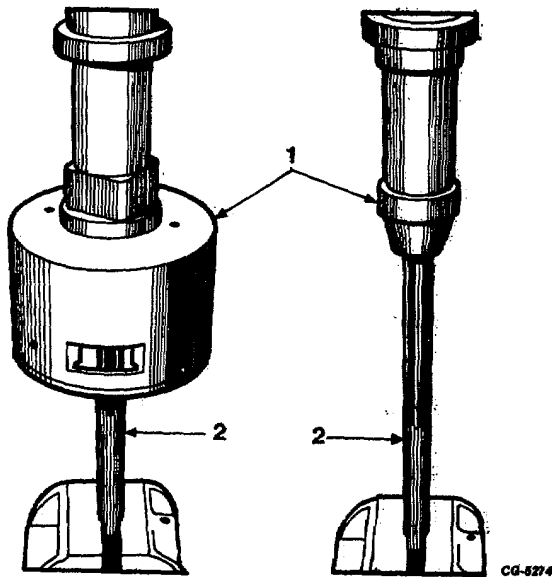

Fig. 33 Burnishing Upper and Lower Bushings Using Burnisher Tool.
- Burnish upper bushing by carefully placing distributor housing on burnisher and rotating the housing clockwise using light pressure until tool passes through bushing (Figure 33).